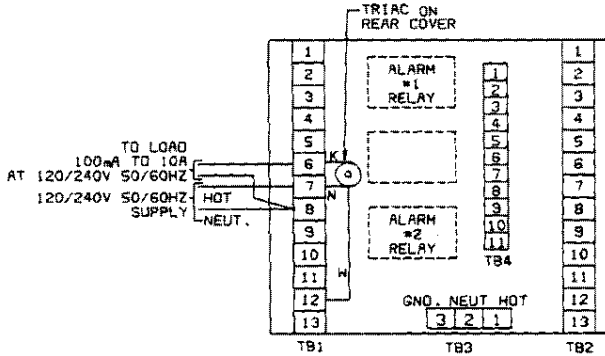

Fig. 2-9.2—D.A.T. triac output.
**Triac output.** 100 mA to 10 amperes at 120 volts, 50/60 Hz. See Fig. 2-9.2